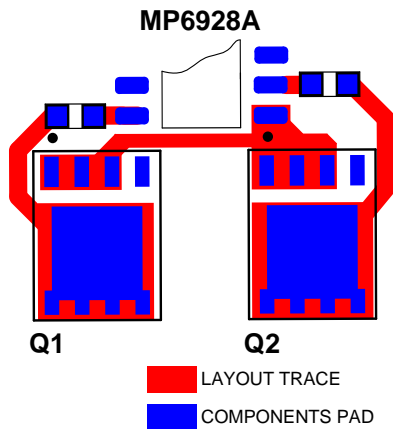

Figure 12: Layout Example for Sensing Loop and VDD Decoupling
Figure 12 shows a layout example of the MP6924A driving SOIC-8 package MOSFETs with two separate, small, sensing loops.
1. Place a minimum 1µF decoupling capacitor from VDD to PGND, and close to the IC for adequate filtering (see Figure 12).